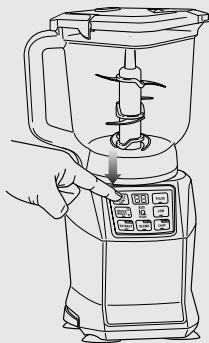

fig. 8
- 10 Once the pitcher is engaged, the programs available for that attachment will illuminate. Select the program desired based on your recipe. **(Fig. 8)** The Auto-iQ program will stop the appliance automatically at the end of the program.